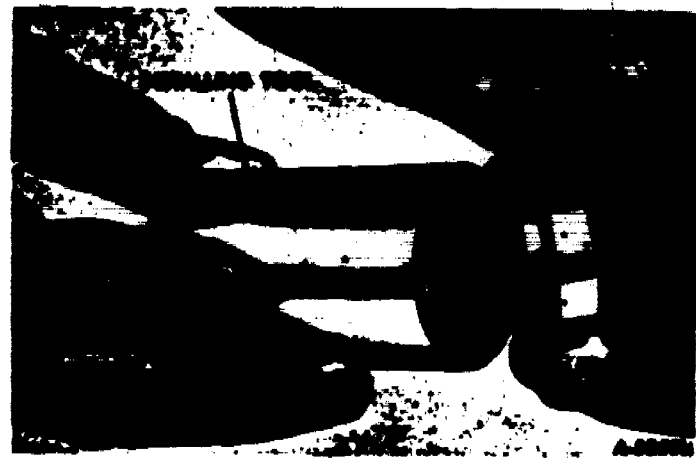

Fig. 92 - Water Pump Seal Installer Tool - SE-1721
1. Place the new water pump seal assembly on installing tool, SE-1721, (Fig. 92). Place pump body in press and, after aligning seal and installing tool, press seal into body (Fig. 93).